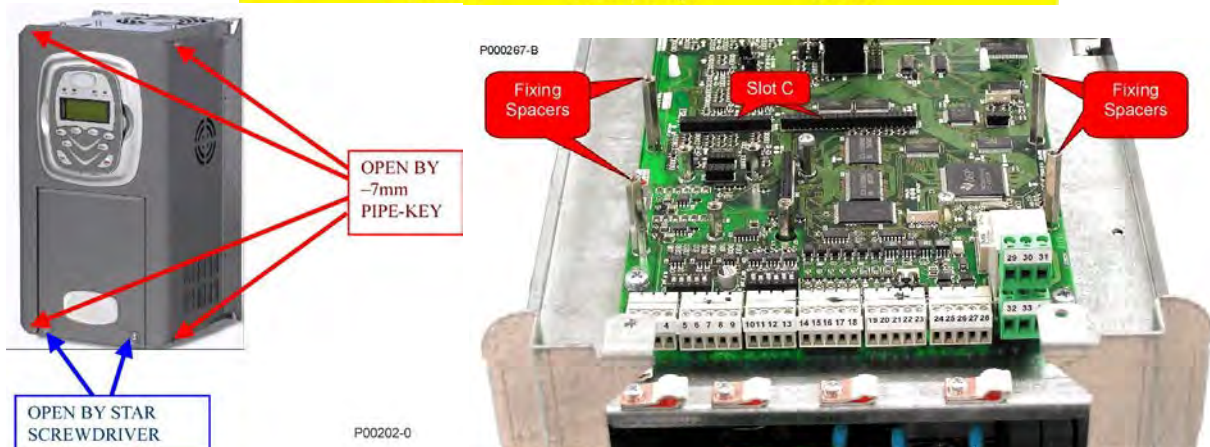

Figure 166: Removing the inverter cover; location of slot C
2. Remove the whole inverter covering by loosening the four hexagonal screws located on the top side and bottom side of the inverter to reach the fixing spacers and the signal connector (Figure 166 – Slot C.)